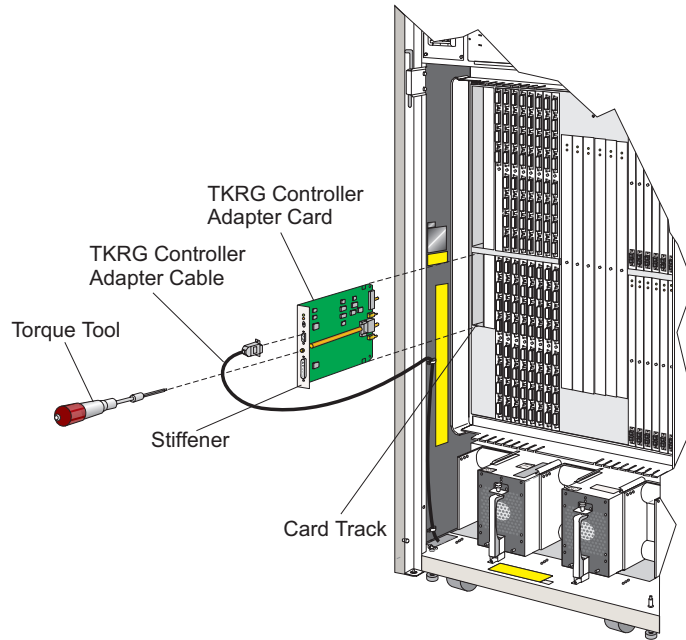

Figure 3-24. Token-Ring (TKRG) Controller Adapter Card, Nonredundant
Use the following procedure to remove a TKRG controller adapter card from a **non-redundant** TKRG card unit. Refer to Figure 3-24 on page 3-49.
Use the following procedure to replace a TKRG card within a **nonredundant** TKRG card unit. Refer to Figure 3-24.
2. Holding the TKRG card by its stiffener, carefully insert it straight into its card track (Figure 3-24 on page 3-49). Note that the label identifying the TKRG card should be at the top and the component side of the card should face to the right.